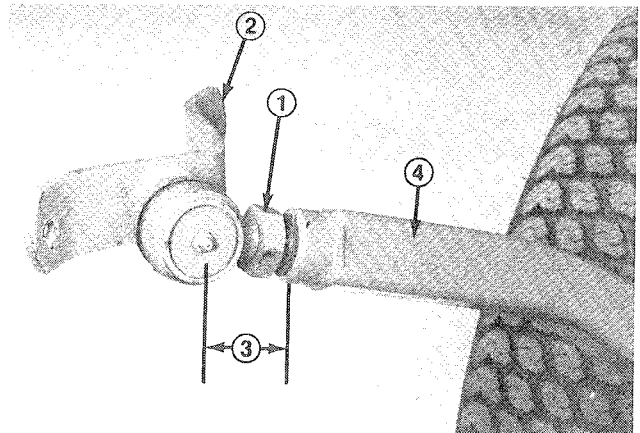
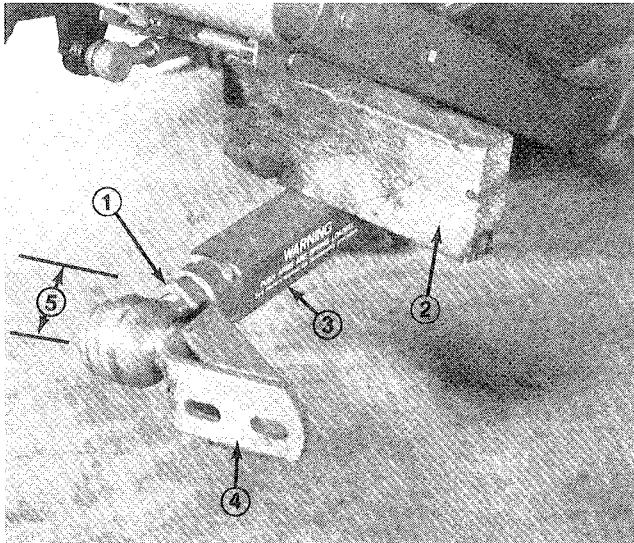

Figure 8
Figure 9
2. Screw ball joint into right hand push arm until center of ball joint is 2-3/8 inches (60 mm) away from front of push arm (Fig. 8). Do not tighten jam nut.
4. Have a helper push down on the left push arm. Then insert a 2 x 4 in. (51 x 102 mm) block of wood between the frame and top of the push arm (Fig. 8). Screw ball joint into left hand push arm until center of ball joint is 2-3/8 inches (60 mm) away from front of push arm (Fig. 9). Do not tighten jam nut.